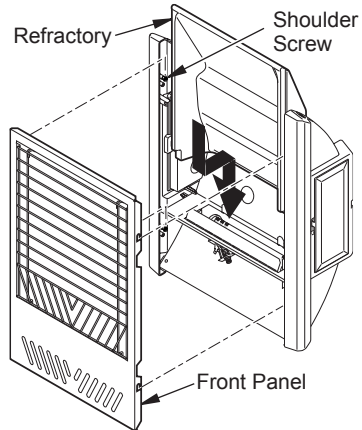

Figure 15 - Installing Front Panel and Refractory
1. Gently lift refractory and position into heater. Take care not to damage refractory (see Figure 15). If refractory is damaged call the phone number found under *Replacement Parts*, page 21.
2. Install front panel of heater by placing slots on each side over and down onto shoulder screws (see Figure 15).